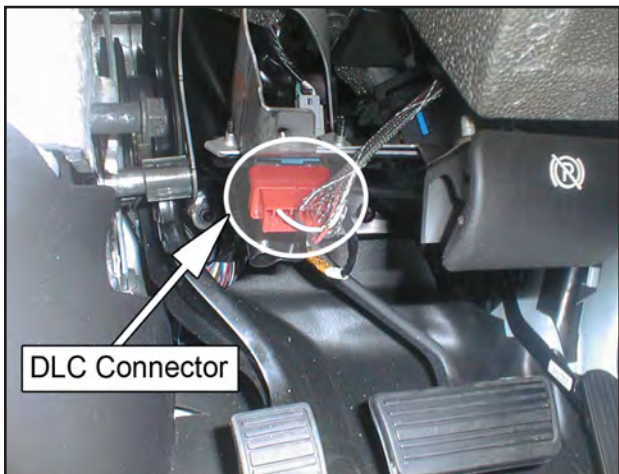

Figure 33. Route DLC Harness over Column to Data Link Connector
3. Route the DLC harness over the steering column to the Data Link Connector located just above the E-brake pedal. Make sure the harness is routed away from sharp edges and such that it does not come in contact with the driver's feet. Plug the harness in and secure with a wire tie or tape to prevent it from vibrating out over time. See Figure 33.